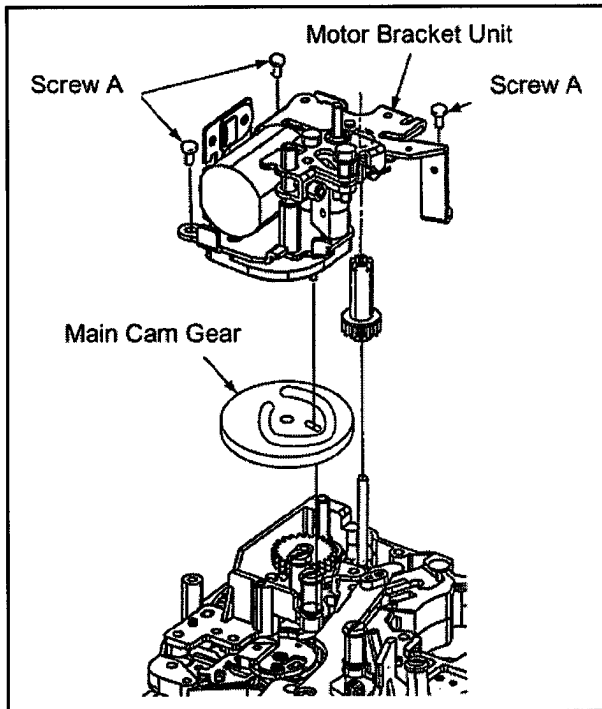

Fig.4-10-1
5. Unscrew 3 screws A, and the Motor Bracket Unit. (Fig.4-10-1)
2. The pin at the bottom of the Mode SW should be put into the hole of the Main Cam Gear. (Fig.4-10-1 and 4-10-2)